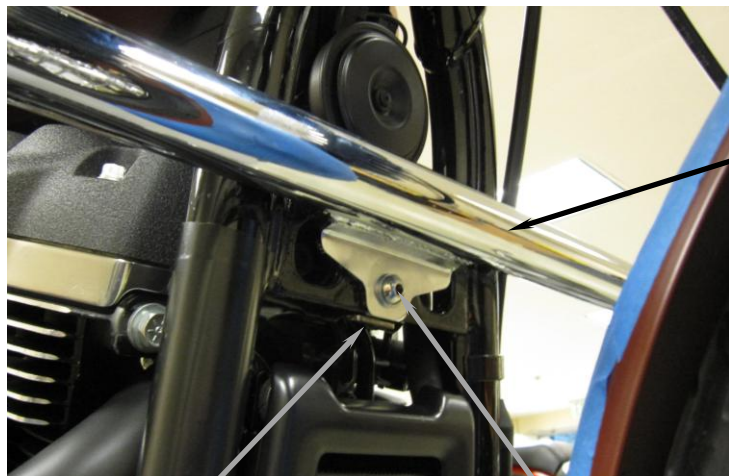

FIGURE 03
6. Carefully rotate the top of the freeway bar towards the upper frame until the upper freeway bar mount rests on the frame support bracket. Then insert the 5/16-18 buttonhead bolt, with the flat washer, through the freeway bar upper mount and through the lower hole of the frame support bracket. See **FIGURE 03**.
7. Position the nut plate with the threaded PEM behind the frame support bracket so that the formed tab is facing forward toward the front tire. The formed tab will rest on the underside of the frame support bracket and keep it from turning while tightening the 5/16-18 buttonhead bolt. See **FIGURE 03**. Snug the 5/16-18 buttonhead bolt but do not tighten at this time.